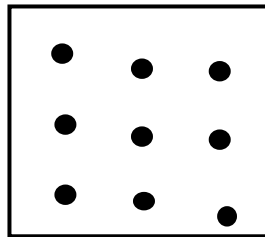

Figure 1
1. On the surface of SVEZA COLOR plywood samples, punctures are made with a drill to the depth of the thickness of the facing and outer layer of plywood in the amount of 9 pieces according to Figure 1.